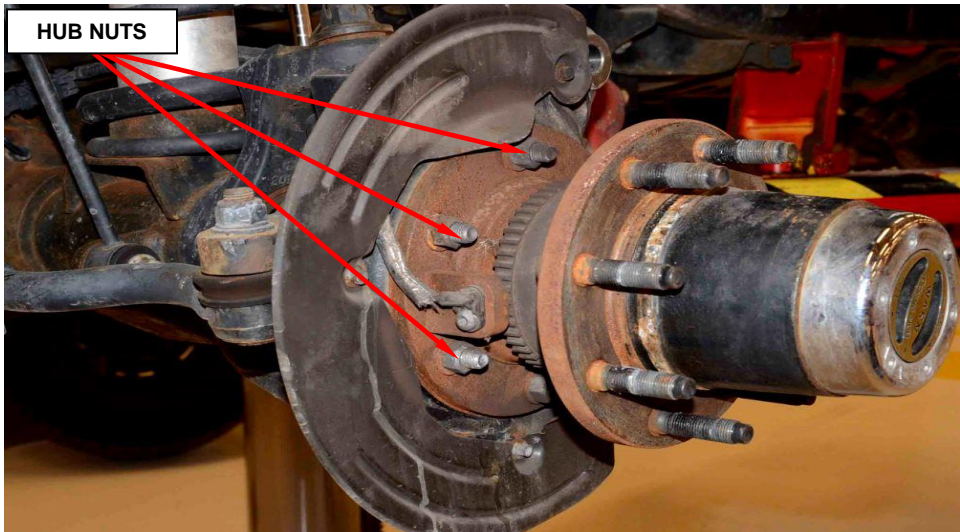

Figure 3 – Hub Nuts
6. Remove the six hub nuts and washers and **discard** (Figure 3).